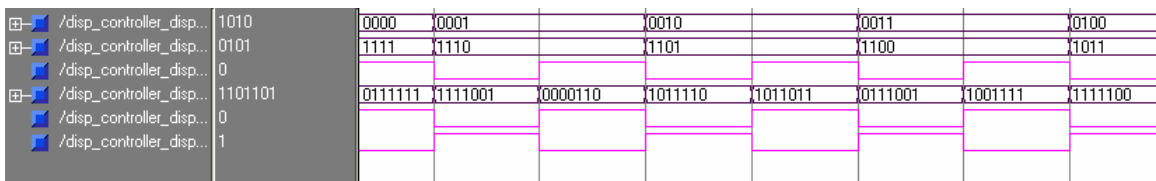

Figure 7; Display controller simulation
6. Simulate the project; Highlight the file disp_controller_tb.vhd under **Sources in Project**, expand **ModelSim Simulator** and double click **Simulate Behavioral model** under **Processes for Source** window. Make sure the simulation produces a waveform similar to figure 7.